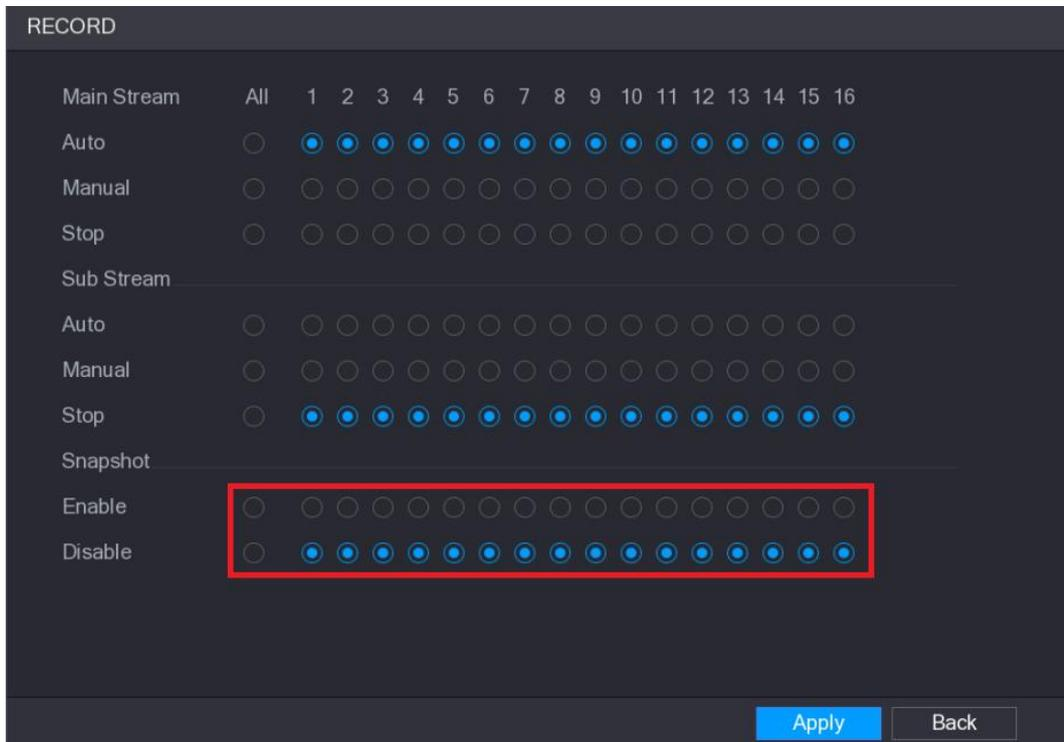

Figure 5-85
**Step 3** In the **Snapshot** area, enable the snapshot for the channels if needed. See Figure 5-85.